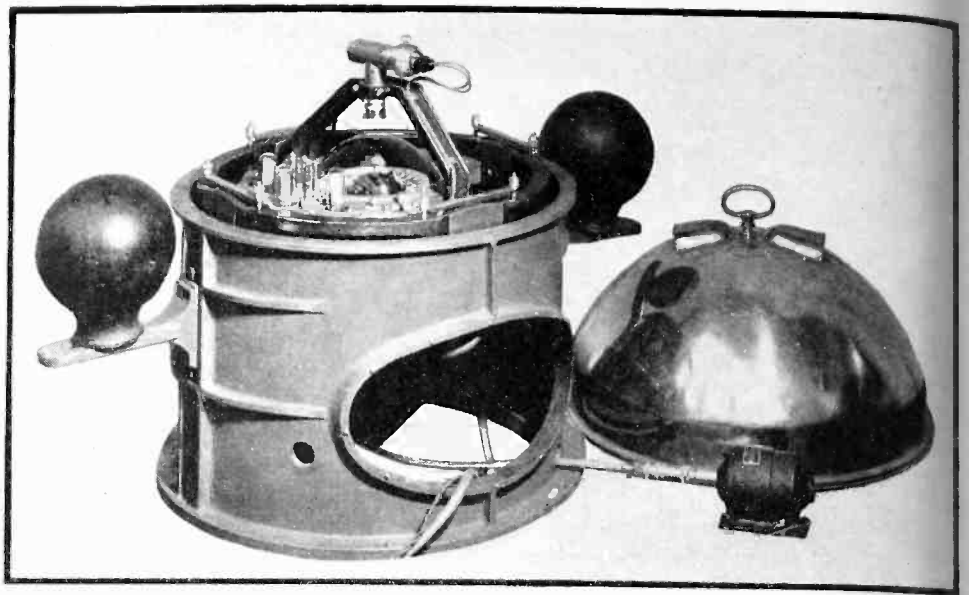

Fig. 2—A mirror is mounted on the spindle of the spherical compass and a lamp is placed directly above it
It remains to show that distortion arising from non-linearity of the remote cut-off tube characteristic is not present at the output of the limiting amplifier to any great extent. Consider two amplifiers (1) and (2) (Fig. 2) with voltage gains A_1 and A_2 which include all attenuating networks associated with the amplifiers, so arranged that amplifier (2) is the feedback path for (1), and assume a distortion component of output signal, D . To produce this output distortion, a distortion Δ must be present at the input to amplifier (1) such that
The details of the apparatus will now be described and the methods of overcoming the difficulties previously mentioned will be explained. The binnacle containing the compass and phototubes is shown in Fig. 2. While any type of magnetic compass can be utilized, the spherical compass